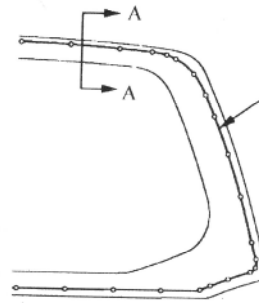

Fig.18-51
- ④ Paint the adhesive along the centerline around the glass, see figure18-51.
- ⑤ Installation procedure is the same as the windshield